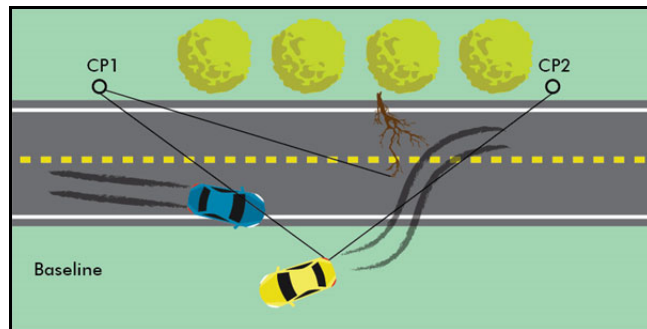

Figure 12
Measure from the feature to the control points and in some cases measure from the control points to the feature. The two control points and the feature form a triangle, and the geometry of the triangle is used to determine X, Y (or X, Y, Z) coordinates for each feature (Figure 12).
- Looking at Figure 12 above, from CP2 the vehicle is blocking the view to the end of the skid mark. From the Measure Menu, the Set New CP2 option redefines CP2 (Page 54), and then continue measurements using the new CP2.